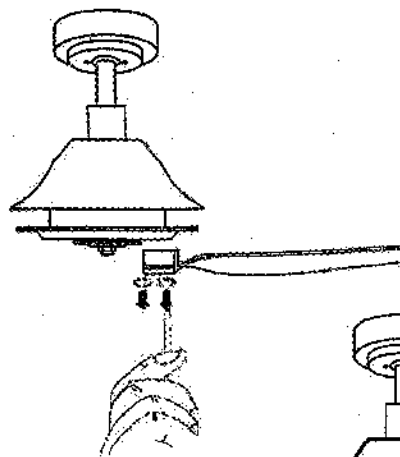

Figure 10
Step 1 Attach the blade to the blade bracket using the screws and lock washers. Start screw into bracket. Repeat for the two remaining screws. (Fig. 10)